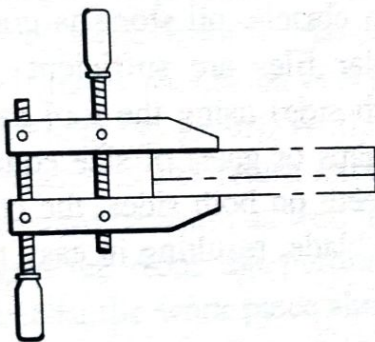

FIGURE 6.15
7. *Hand screws:* Figure 6.15 shows the general form of a hand screw. It is used for clamping or holding pieces tightly for various carpentry operations or pasting sheets together.